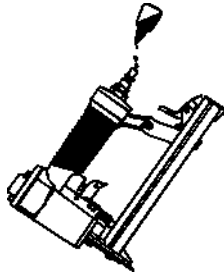

Fig. 3
1. Press down the lock to release the movable magazine and pull out the magazine fully, see fig. 3.